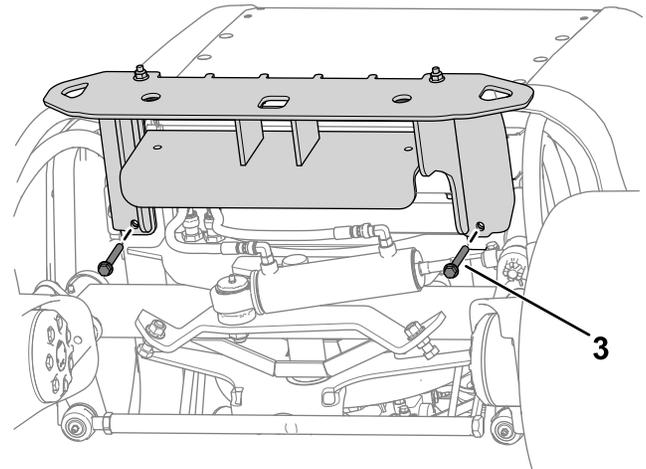

Figure 14
2. Use 4 bolts (3/8 x 3-1/4 inches) and 4 nuts (3/8 inch) to secure the upper area of the bumper to the machine frame (Figure 14).
3. Use 2 bolts (3/8 x 2-3/4 inches) and 2 nuts (3/8 inch) to secure the bumper under the machine frame (Figure 14).